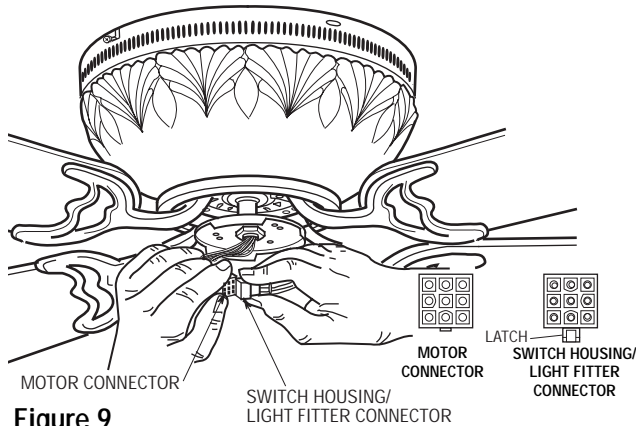

Figure 9
- 5. Engage the color-coded connector of the switch housing/light fitter with the motor connector (Figure 9). Match the color stripes on the two connectors and push together until fully seated and latched.